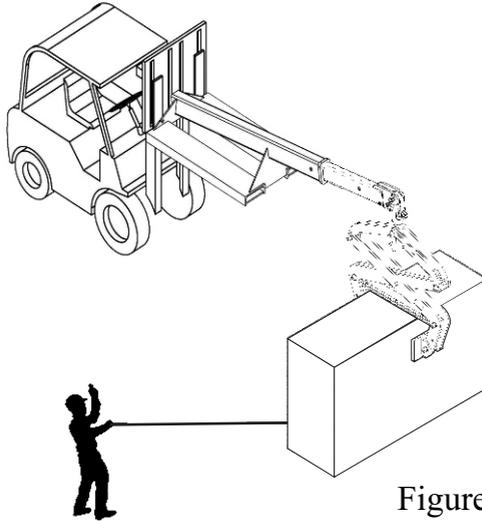

Figure 3.1
**Step 3:** Move the stone slab (Figure 3.1).